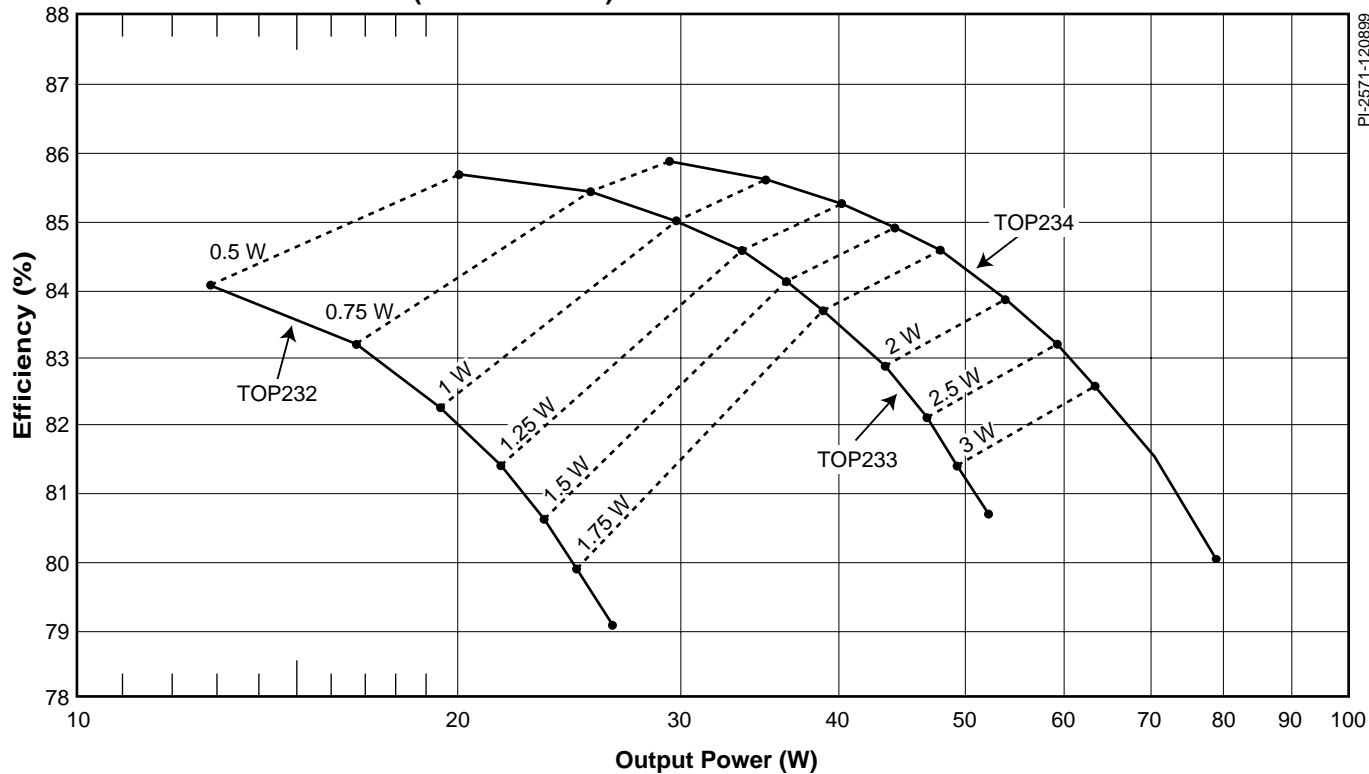

Figure 3. Efficiency vs. Output Power with Contours of Constant TOPSwitch-FX Power Loss for Single Voltage Application and 12 V Output.
- The single 230 VAC input (195 - 265 VAC) curves in Figures 3 and 4 assume a worst case of 195 VAC and an average voltage across the bulk capacitor of over 250 VDC (peak of 275 V and trough of 230 V).
## TYPICAL COMPONENT PARAMETERS FOR SINGLE VOLTAGE INPUT (230 VAC ±15%) POWER SUPPLY (Figures 3 and 4)